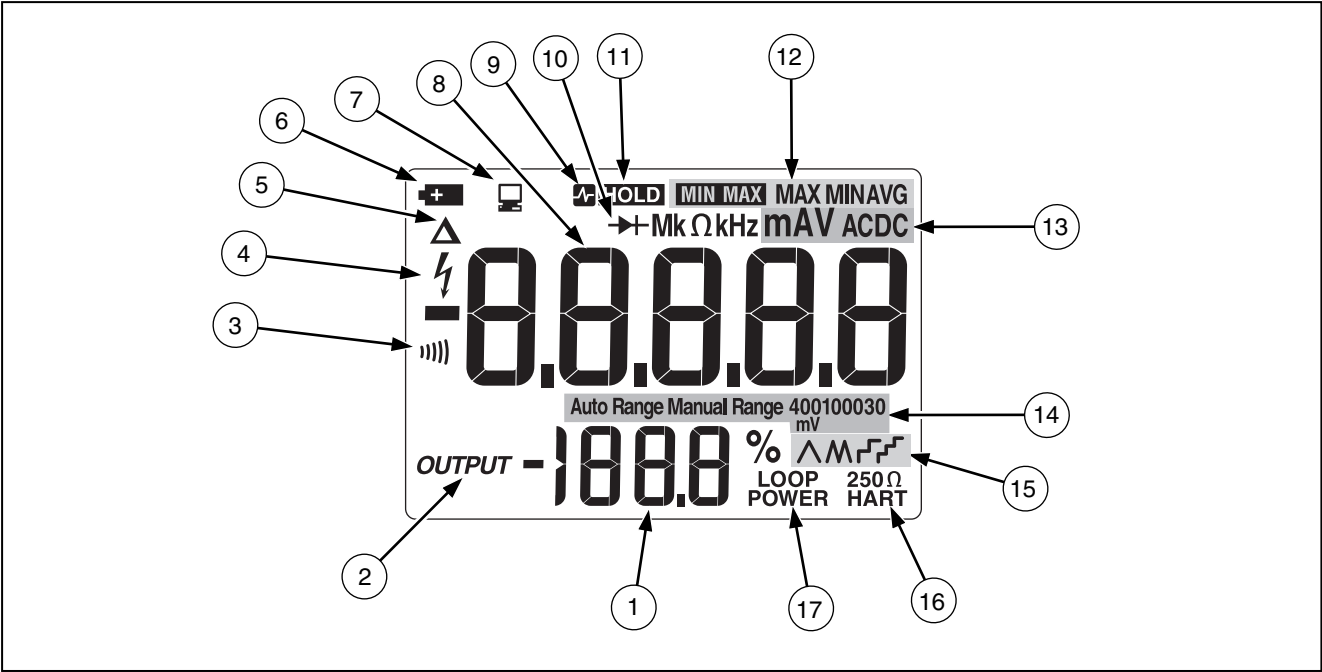

Figure 6. Elements of the Display
- Figure 6 and Table 7 explain what all the elements of the display indicate.